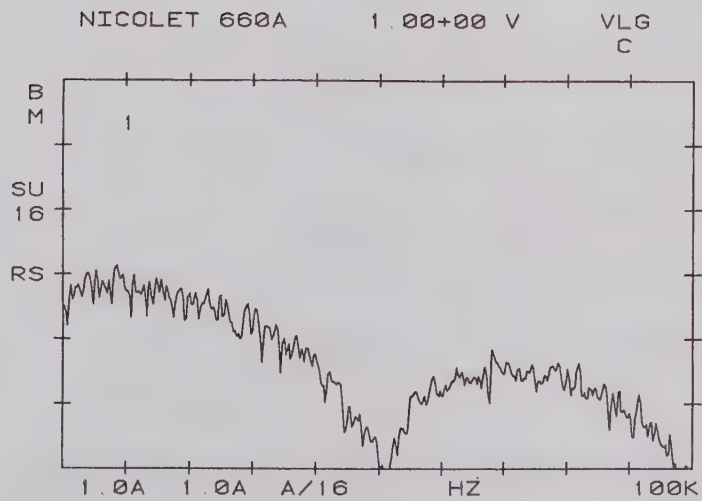

FIGURE T-3
- c. Move TEXT LINE #1 to within graticule: CALCULATION CONTROL Sequence SHIFT:6. Note the CALCULATION CONTROL Sequence SHIFT:6 is referred to as MOVE in the remainder of the example. Also note that the character cursor moved to the beginning of LINE #1. Deflect the CURSOR joystick right or left for horizontal alignment. Deflect either GAIN joystick up or down for vertical alignment. Move the TEXT line about until the 1 appears just inside the graticule. See Figure T-3.